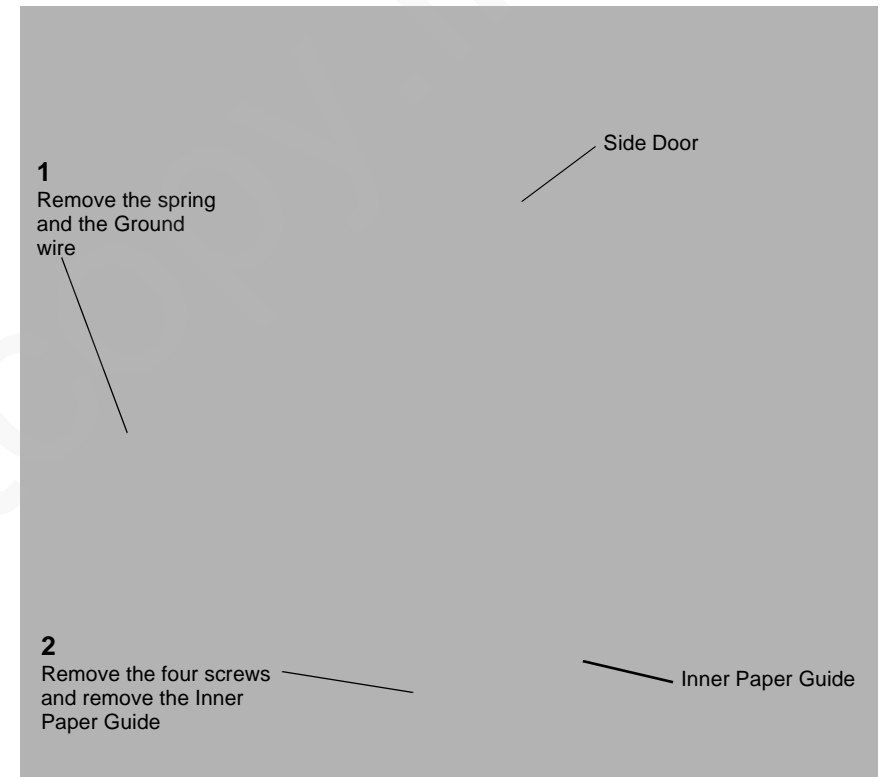

Figure 1 Removing the Covers
2. (Figure 1): Remove the Inner Paper Guide.